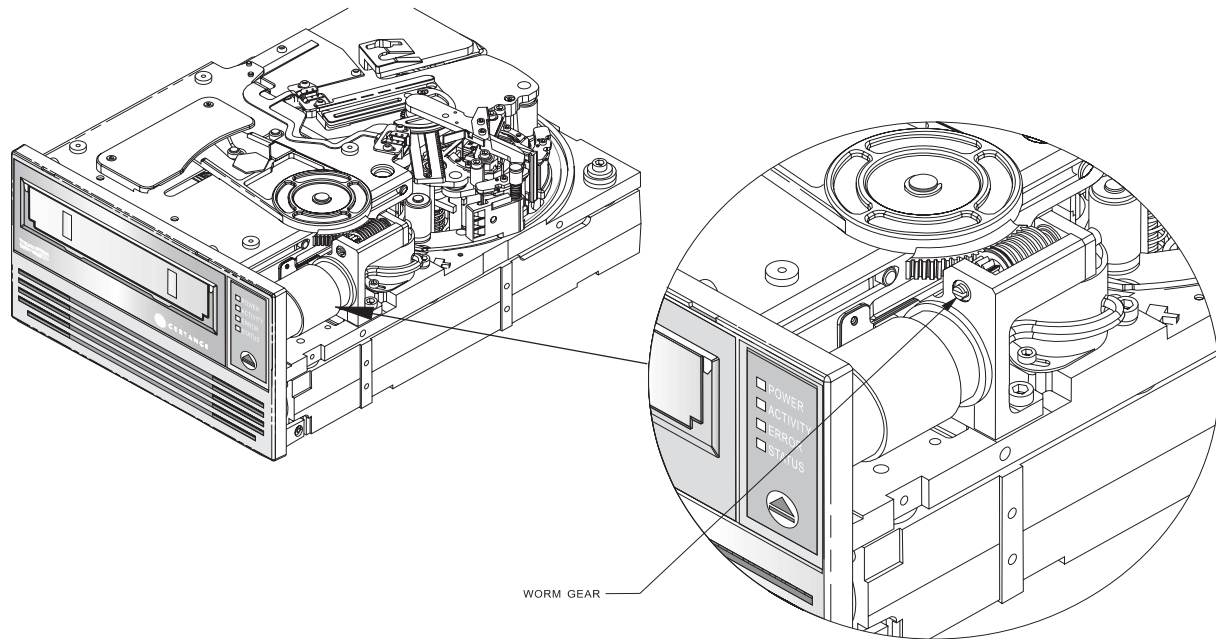

Figure 27. LTO-1 and LTO-2 Drive Worm Gear
- 13.** Use a flat-blade screwdriver to turn the worm gear counter clockwise (to the left). Figure 27 on page 83 shows the location of the worm gear. This will gradually raise the cartridge elevator and cause the cartridge to slide partially out of the drive.